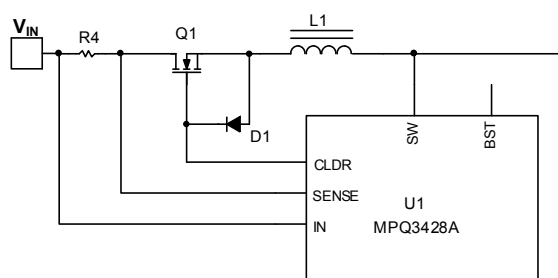

Figure 4: Gate Protection Diode for High Output Voltage Condition
3. SOA: The MOSFET should survive when conducting a current pulse that has a high level of V_{CL} (mV) / R_{SENSE} (mΩ) and lasts for C_{SS} (nF) \times 0.7 (V) / 7 (μA) + 0.5ms.
4. Gate-to-source voltage rating: The positive gate-to-source voltage rating should be greater than 5.5V, while the negative voltage rating should be greater than the value of the output voltage. If the output voltage is too high and the MOSFET gate-to-source rating cannot meet the requirement, a diode from the source to the gate of the disconnecting MOSFET is recommended (see Figure 4).